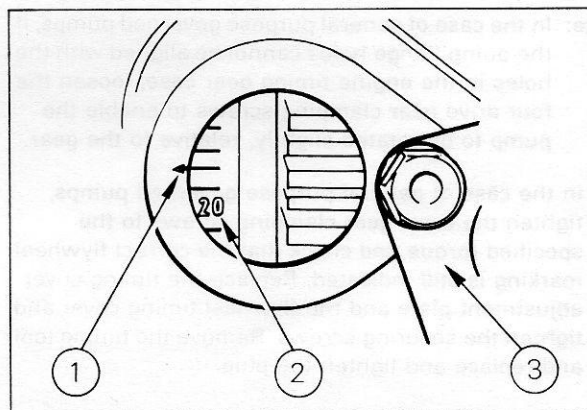

Fig. 29 - Engine Timing
1. Remove the timing cover from the flywheel housing and turn the engine in the normal direction of rotation until the specified number of degrees before T.D.C. on No. 1 cylinder is indicated against the timing mark on the edge of the timing opening (Fig. 29). No. 1 cylinder must be on the compression stroke.